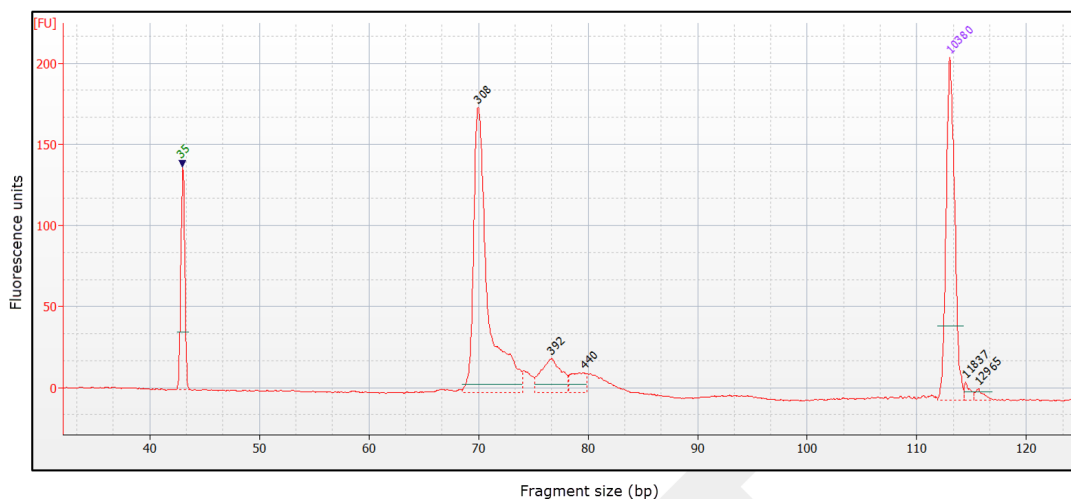

Figure 10. Example of bioanalyzer plot for sgRNA target amplified from gDNA from transduced cells.
6. Expected results: a dominant DNA peak with an approximate size of 310 bp (see Figure 10).